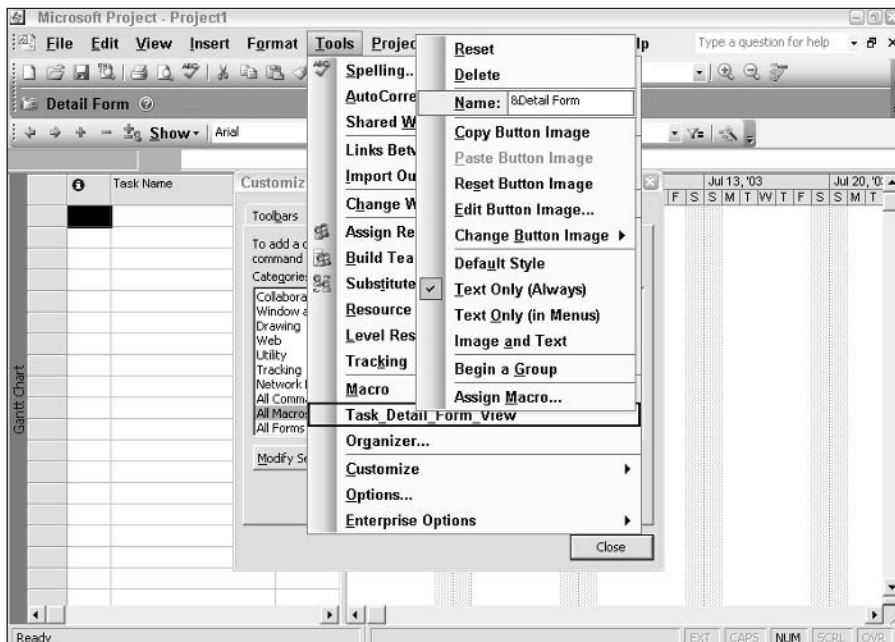

Figure 24-14: Modifying the command name on the menu.
6. To change the name of the macro on the menu, click **Modify Selection** in the **Customize** dialog box to open the pop-up menu, as shown in Figure 24-14.
Alt-T opens the **Tools** Menu so Alt-T-D opens the tools menu and selects the item in that menu with D as the hot key. **JmpTo** provides a hotkey character for your macro name, place an ampersand (&) immediately before the character that you want to be the hotkey—as I did before the *D* of **Detail** in Figure 24-14. If your macro name contains a number, you can make it the hotkey character using the same technique. Make sure that the letter you select is not already in use by some other command on the same menu. When the command appears on the menu, the hotkey character will be underscored, enabling you to choose the command from the menu by pressing the hotkey character combination. For example, I can choose the **Detail Form** command by pressing Alt+T+D. Alt-T opens the **Tools** menu, and D selects **Detail Form**, the item in that menu with D as the hot key.